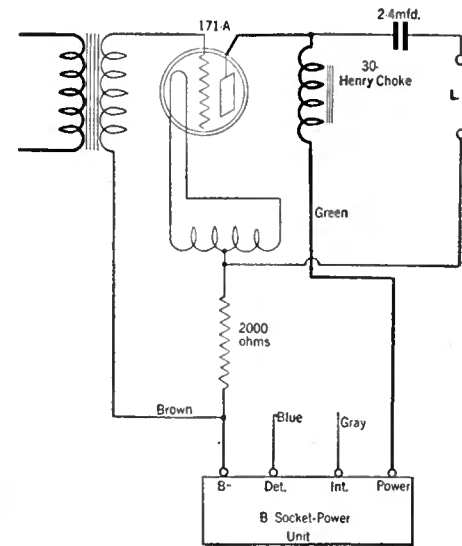

FIG. 1
In most cases it is advisable to use a C battery for the power tube. There is really little or no objection to this practice since the life of the C battery is determined by its "shelf life" which may be in excess of a year. Details for avoiding the use of this battery will be given later. (See Fig. 1).
**I**F B-power unit which supplies 180 volts is used, a C battery with proper potential for the tube employed should be used for the power tube. Where the power device supplies 200 volts or more, an arrangement such as indicated in Fig. 1 may be used. A 30-henry choke and 2.0- or 4.0-mfd. condenser should be used to keep the direct current out of the speaker. When the speaker return is connected as shown, the 2000-ohm grid biasing resistor is not in the return circuit and this insures better reproduction of the lower audio frequencies.